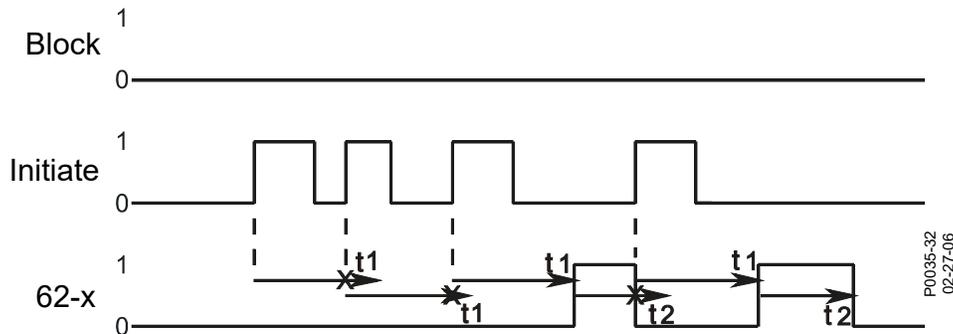

Figure 49-5. One-Shot/Retriggerable Mode
- Step 7: Use the Metering Explorer in BESTCOMSPi^{us} to open the Reports, Sequence of Events screen. Verify that approximately 15 seconds after the second 43-1 OFF to ON initiate signal, the 62-1 timer output went true. Verify that the timer output went false when the third OFF to ON initiate signal forced the 62-1 time delay 1 to restart. Figure 49-5 illustrates the timing relationship of the 43-1 switch and 62-1 timer.